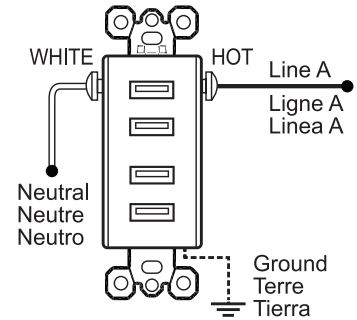

Figure 1/Illustration 1/Figura 1
6. Install device per corresponding wiring diagram. See Figure 1.